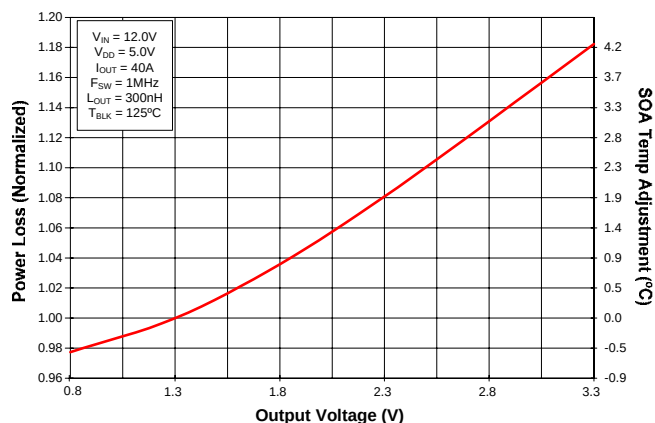

Figure 4 Normalized Power Loss vs. Output Voltage
| (Figure 4) | Normalized power loss for output voltage ≈ 1.0 |
- (Figure 4) SOA temperature adjustment for output voltage $\approx 0.0^{\circ}\text{C}$